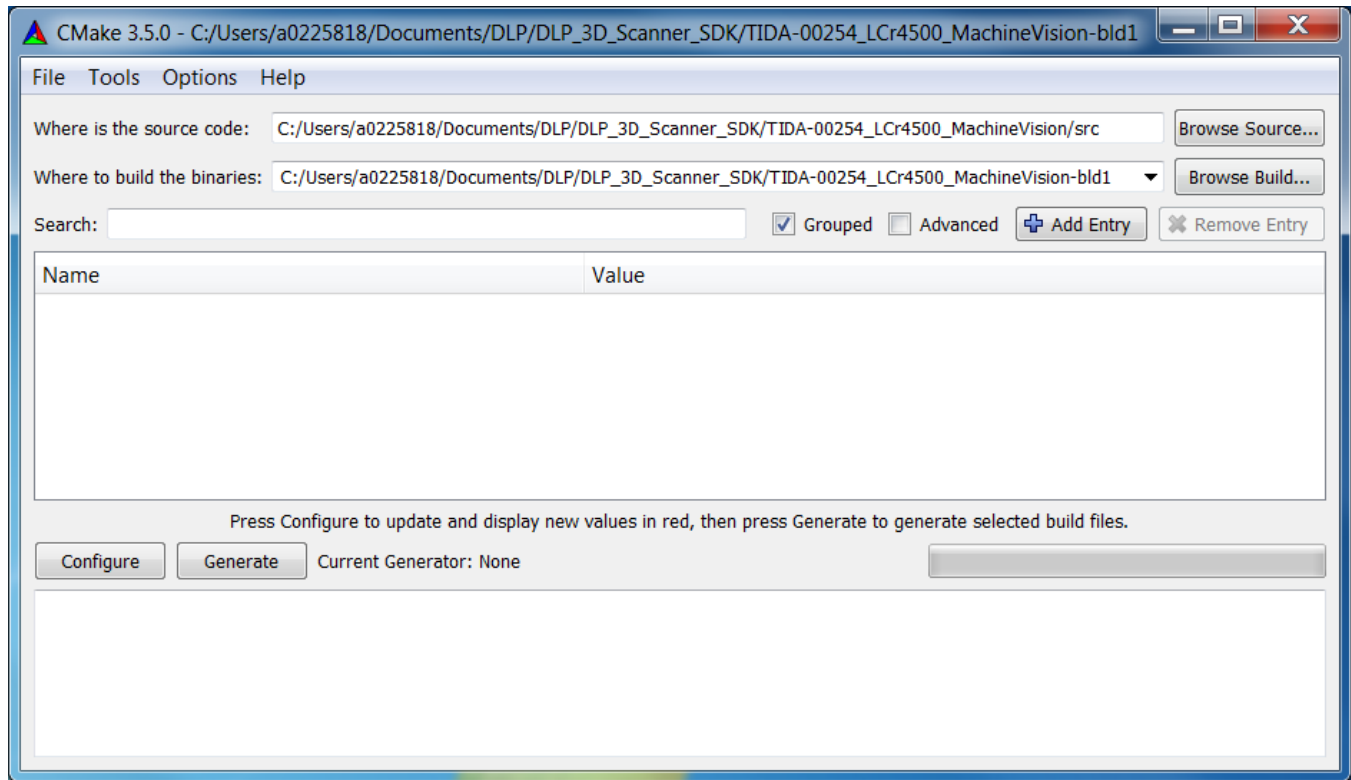

Figure 56. CMake Source and Build File Paths
2. Once CMake is open, browse for the reference design source code and create a new folder for the built source code. The CMake interface should look like Figure 56.